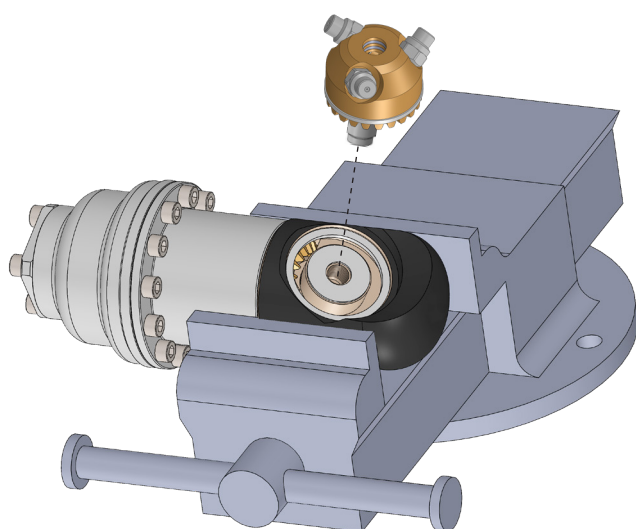

Fig. 9.06
9.3.2) Slide out the pin pos.20 from the nozzle holder crown and remove the washers pos.15 - 19 (Fig.9.06).